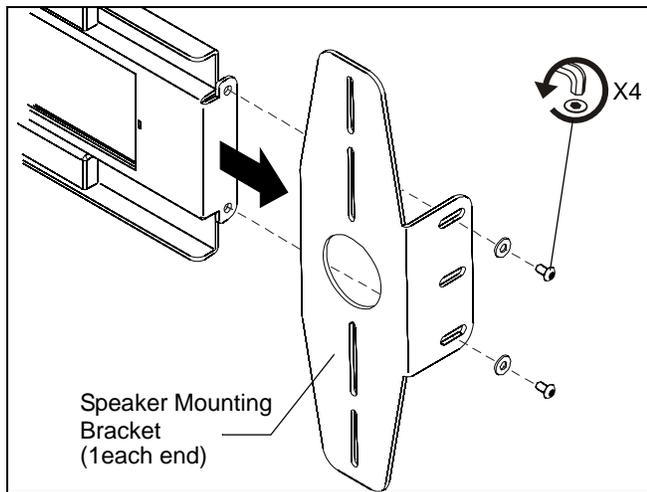

Figure 7
1. Remove speaker mounting brackets from speaker mounting rails by removing four button head cap screws and four washers. (See Figure 7)